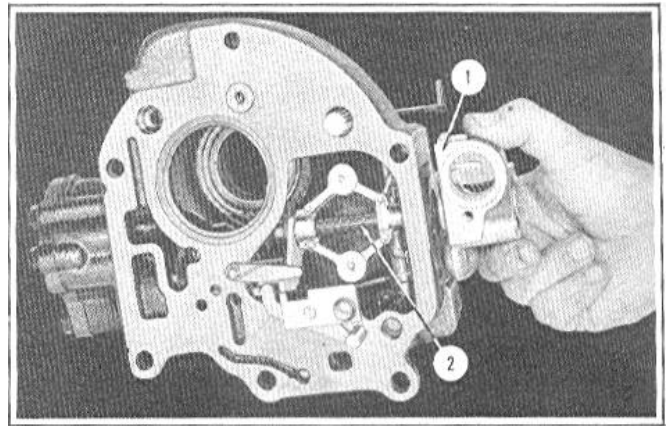

FIGURE 34
3. Remove the gear housing (1) and gasket (3), Figure 34, from the extension case. The speedometer drive gear is inside the gear housing and will be removed with the housing.